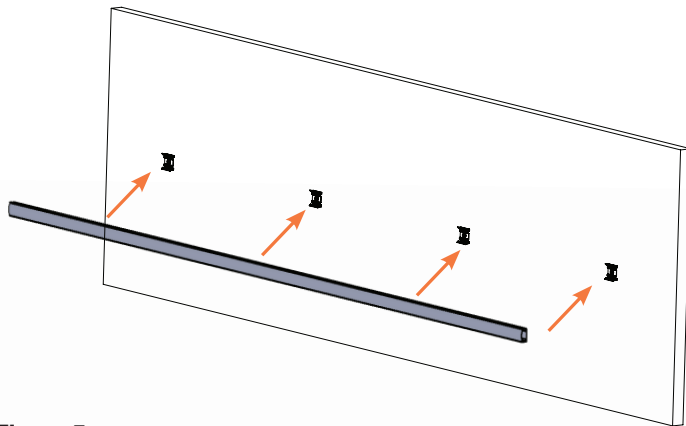
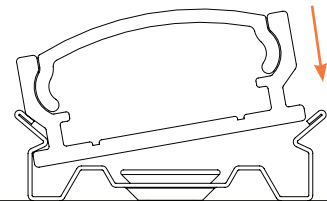
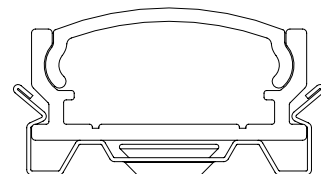
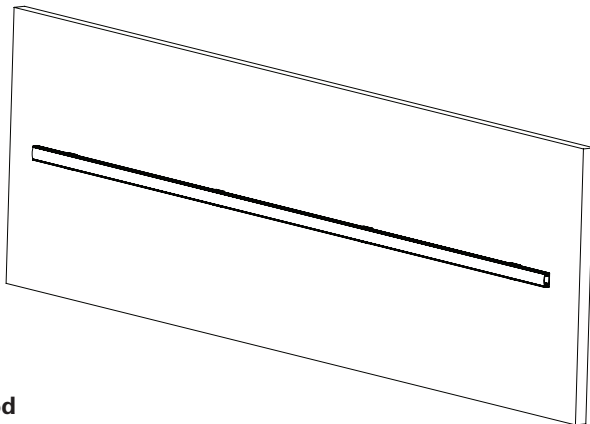

Figure 5a
Figure 5b
Figure 5c
Figure 5d
4. Align and Attach the Extrusion (Figure 5a). Position the extrusion so its bottom edge lines up with the bottom lips of the mounted clips. (Figure 5b). Carefully press the extrusion into the clips, working along the length to ensure it snaps securely into each clip. (Figure 5c) Check that the extrusion is fully seated and locked into all clips. (Figure 5d) .